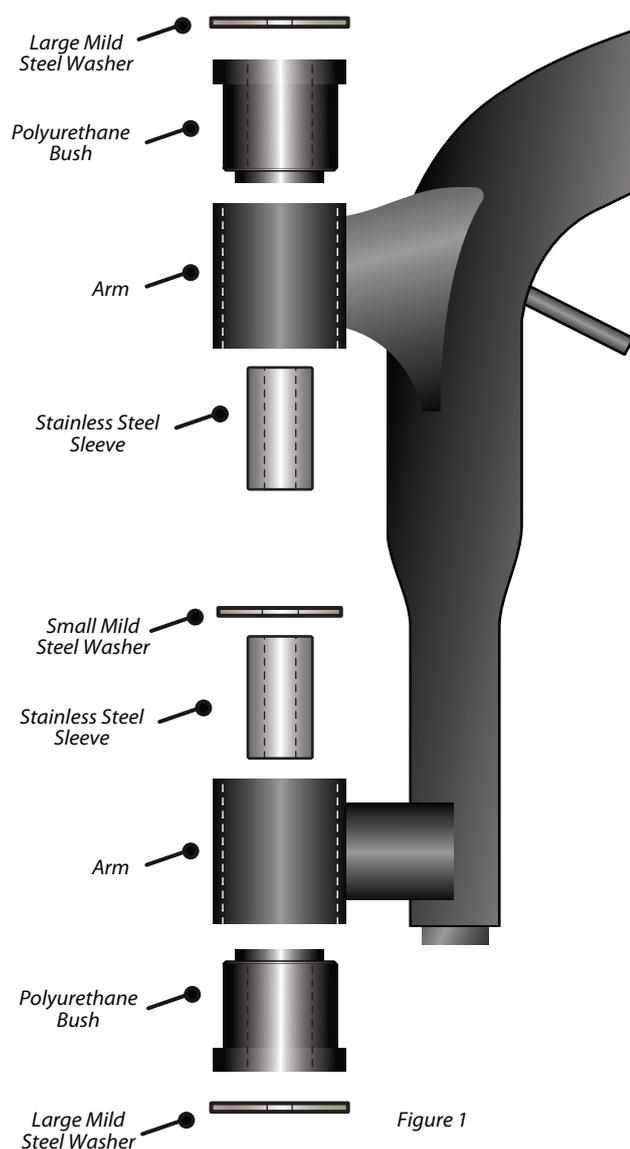

Figure 1
3. Press the two polyurethane bushes into the arm, ensuring that the flanges are positioned on the outside of the arm, as shown in Fig 1.
6. Position the larger washers on the outer face of both bushes, and the smaller washers on the inner face of the rear bush, as shown in Fig 1.